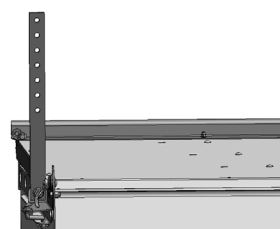

Figure 2
2) Forming Shield Rear Height Adjustment. See Figure 2